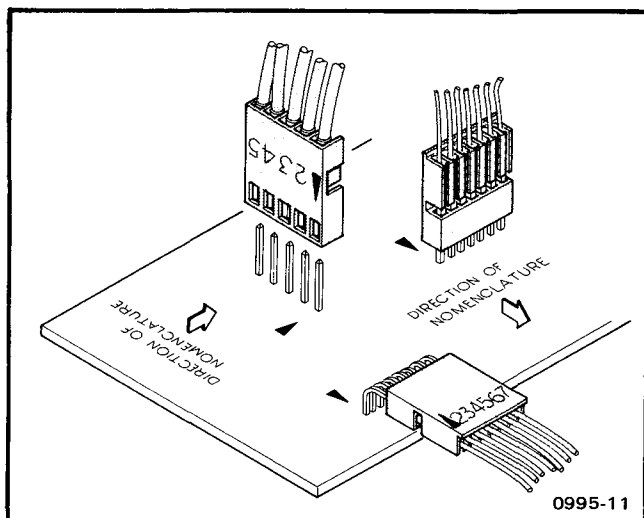

Fig. 5-4. Multi-connector holder orientation.
**Multi-Connector Holders.** The multi-connector holder is keyed with two triangles, one on the holder and one on the circuit board. When a connection is made perpendicular to a circuit board surface, the orientation of the triangle and the slot numbers on the connector holder are determined by the direction of the nomenclature marking (see Fig. 5-4).